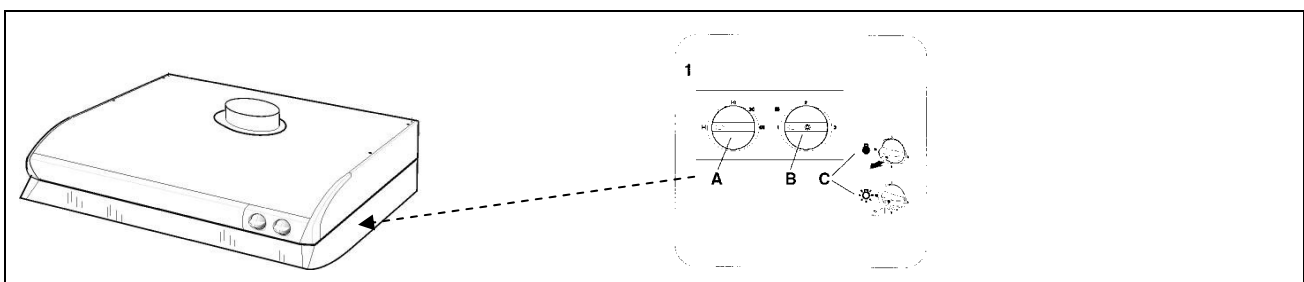

Fig. 9
- Fig. 9: A** Bryter for tidsregulert spjeld